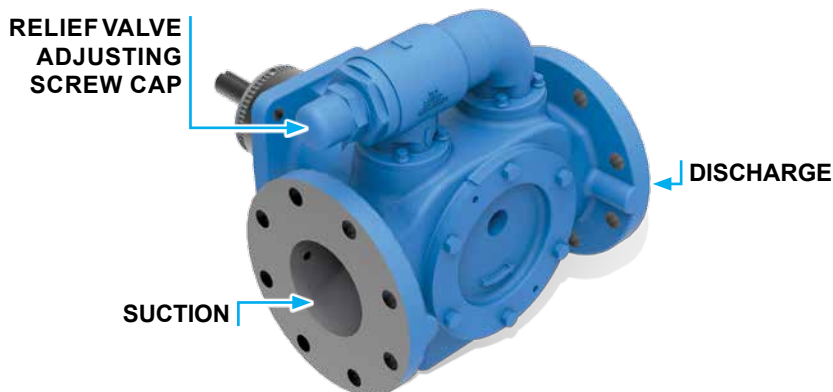

FIGURE 2
2. The relief valve adjusting screw cap must always point towards the suction side of the pump. See **Figure 2**.
9. If the pump was equipped with a relief valve and was removed during disassembly, install on the casing with new O-rings or gaskets. The relief valve adjusting screw cap must always point towards the suction port. Refer to **Figure 2**, page 3. For relief valve repair or adjustments, see **"Pressure Relief Valve Instructions,"** page 8.